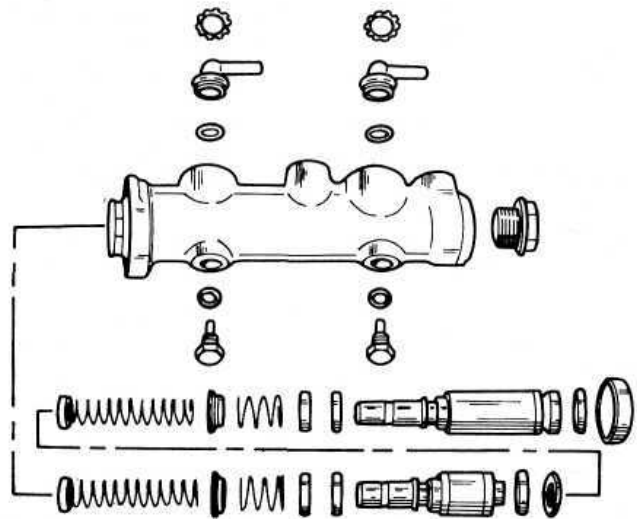

FIG 10:11 An exploded view showing the components of the tandem master cylinder
- 4 Locate the cable adjusting nuts as shown in **FIG 10:10** and adjust these until it is just possible to turn the road wheels by heavy hand pressure. It is important that both wheels offer the same resistance to turning to obtain correctly balanced braking.
This is used on later model cars. A tandem master cylinder provides two entirely separate hydraulic circuits, one for the front and one for the rear brakes. The components of the master cylinder are shown in the exploded view of **FIG 10:11**. The principle of operation is quite straightforward and easy to understand.